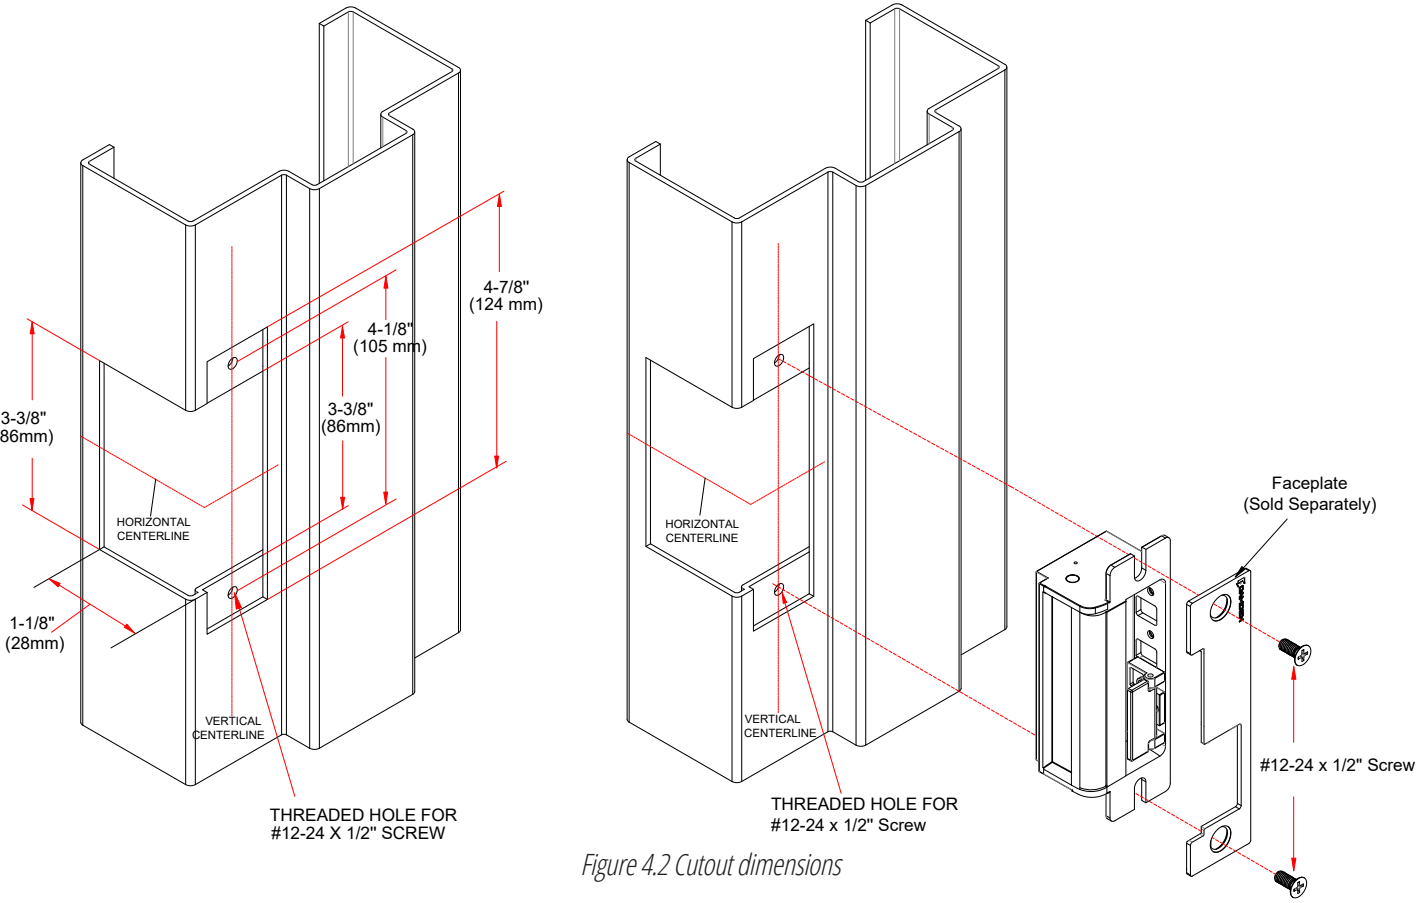

Figure 4.2 Cutout dimensions
1. Check that the door jamb has a cutout that fits the strike assembly. If not, refer to figure 4.2 for guidance.